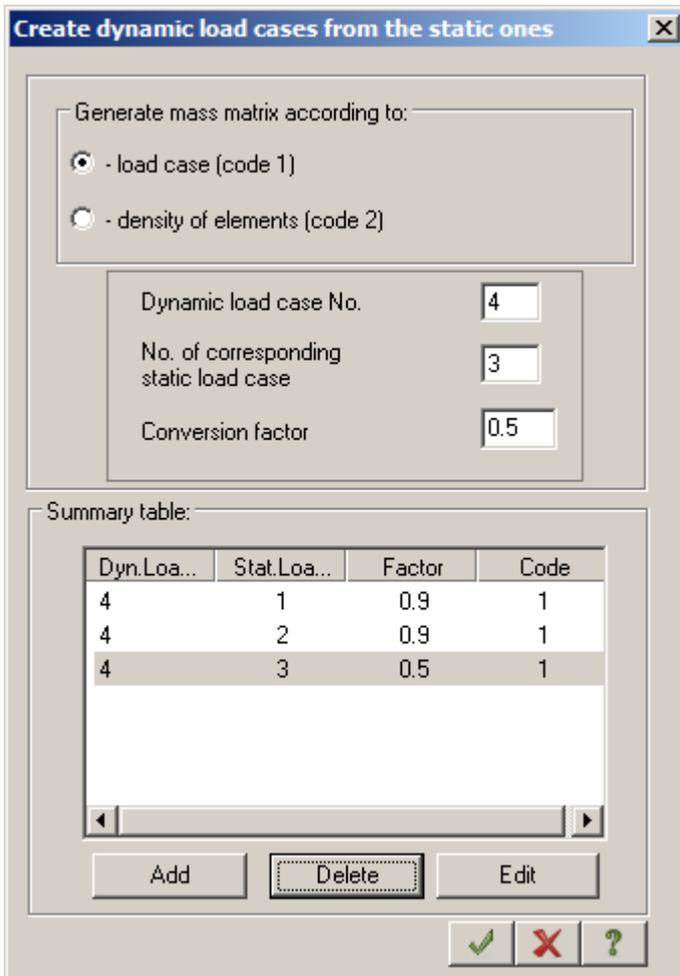

Figure 11.25 Create dynamic load cases from the static ones dialog box
- ⇒ In the **Create dynamic load cases from the static ones** dialog box (see Fig.11.25), under **Generate mass matrix according to**, click **Load case (code 1)** and to create the first line of the summary table, specify the following data: